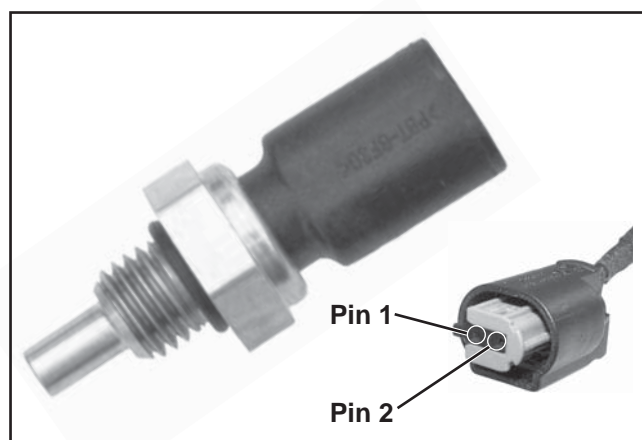

Figure 5-7. Engine (Oil) Temperature Sensor.
The engine (oil) temperature sensor (Figure 5-7) is used by the system to help determine fuel requirements for starting (a cold engine needs more fuel than one at or near operating temperature).
6. Check the circuits (input, ground), from the wire harness connector to the sensor plug for continuity, damage, etc. Connect one ohmmeter lead to Black pin 14 in the wire harness connector (as in step 4). Connect the other lead to terminal #1 in the sensor plug (see Figure 5-7). Continuity should be indicated. Repeat the test between Black pin 10 and terminal #2 in the sensor plug.